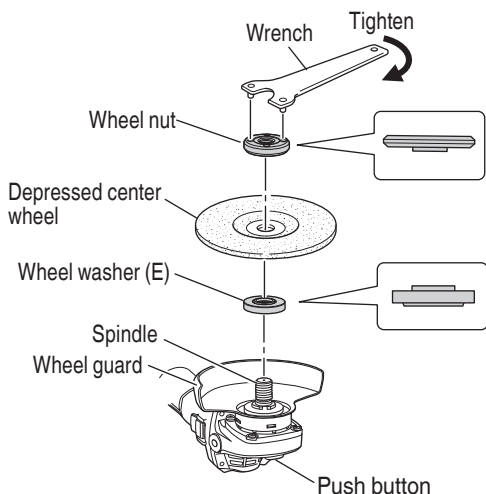

Fig. 18
- Align the oval-shaped indentation of the wheel washer (E) with the notched part of the spindle, then attach them.
- Fit the protuberance of the depressed center wheel onto the wheel washer (E).
- While pushing the push button with one hand, lock the spindle by turning the depressed center wheel slowly with the other hand. Tighten the wheel nut by using the supplied wrench as shown in Fig. 18.